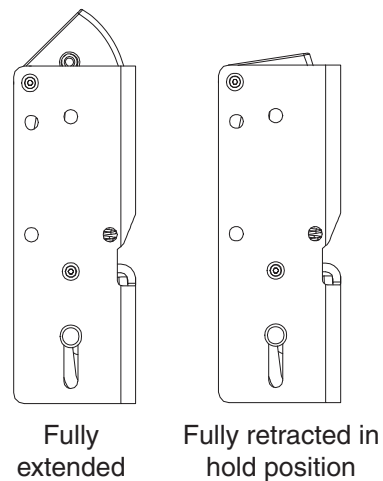

Figure 10-1
- Set top latch in fully retracted (hold) position (Figure 10-1).